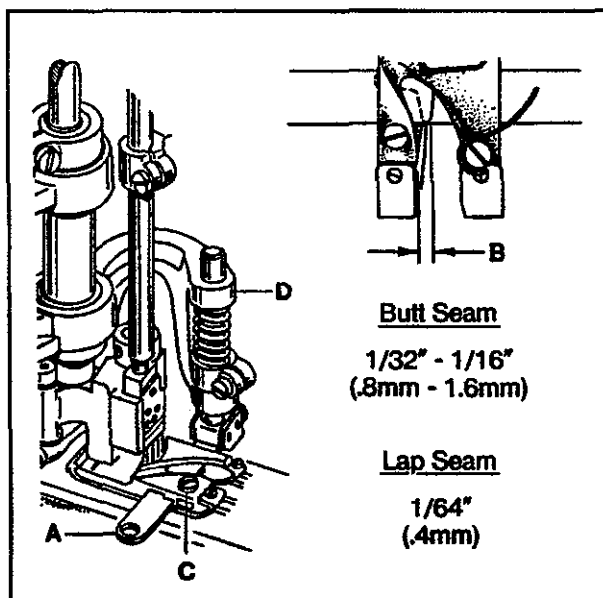

FIG. 28
To make the adjustments for a flat, butt seam, position lower knife (A, Fig. 28) in the foot so it extends  $\frac{1}{32}$ " to  $\frac{1}{16}$ " (0.8mm to 1.6mm) past the right side of the left toe (B) (approximately between the second and third needles). Loosen screw (C) and move knife in or out as required. Tighten screw (C) securely.
To make the adjustments for a lap seam, position lower knife (A, Fig. 28) in the foot so it extends  $\frac{1}{64}$ " (0.4mm) past the right side of the left toe (B) (approximately even with the first needle). Loosen screw (C) and move knife in or out as required. Tighten screw (C) securely.